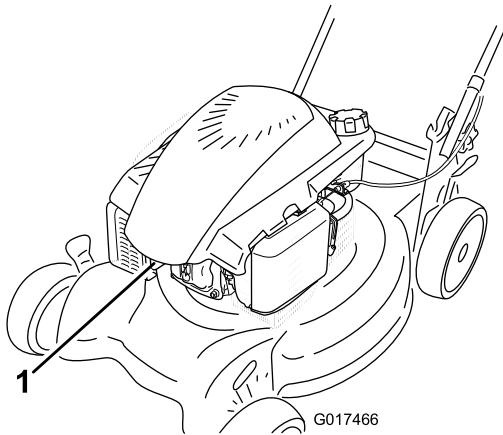

Figure 36
2. Disconnect the spark-plug wire from the spark plug (Figure 36) before performing any maintenance procedure.